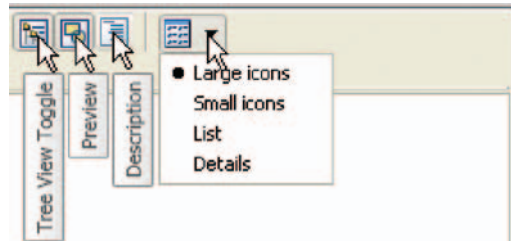

Fig. 9.11 The icons at the top-right corner of the **DesignCenter** palette
2. Clicks on one of the three icons at the top-right corner of the palette (Fig. 9.11) have the following results: